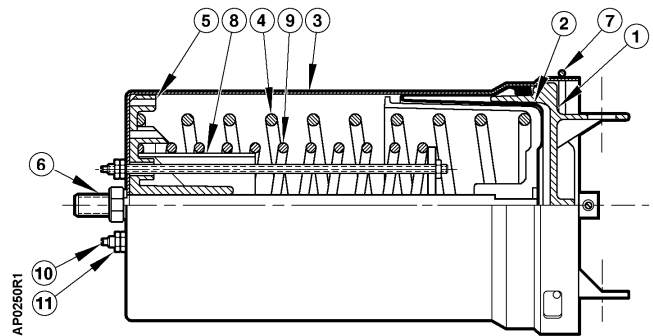

Figure 4. Hesitation Actuator.
Hesitation Actuator (Figure 4)
2. Turn locknuts on cycle adjustment rods until they contact lower housing, then lock together (Figure 4, Items 10 and 11). For initial hesitation point settings other than one inch (25 mm), follow this same procedure.